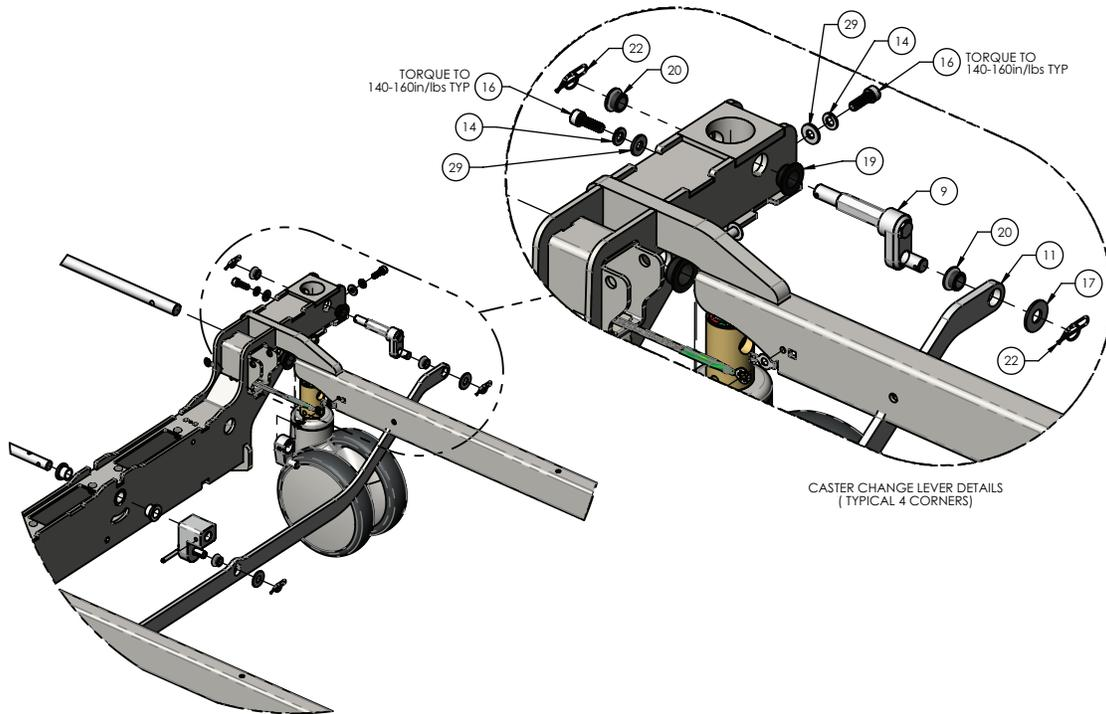

Figure 4 – Caster replacement
7. Using a 5 mm hex driver, remove and save the caster screws (16), lock washers (14), and flat washers (29) (Figure 4). Remove and discard the caster.